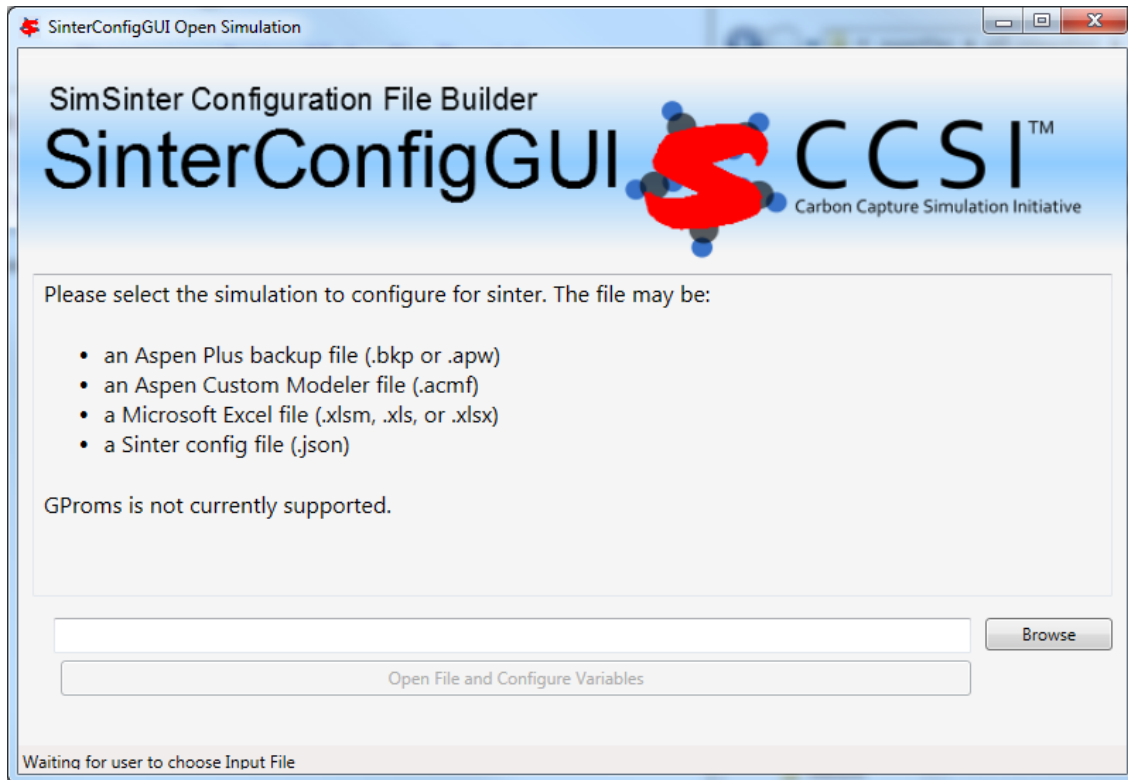

Figure 3: SinterConfigGUI Open Simulation Window
3. The SinterConfigGUI Open Simulation window displays as shown in Figure 3. Click “Browse” to select the file to open and then click “Open File and Configure Variables” to open the file. The user can either open a fresh ACM simulation (.acmf file) or an existing Sinter configuration file. In these instructions, a fresh simulation is opened. It may take a few minutes after clicking the button to SinterConfigGUI to move on. It must open your simulator, so you must expect it to take at least as long as your simulator normally takes to open. For Aspen products that use a networked license server, this may take as long as a few minutes. During that SinterConfigGUI will remain on the Open File Page, but the “Attempting to Open Aspen” message will appear at the bottom of the window.